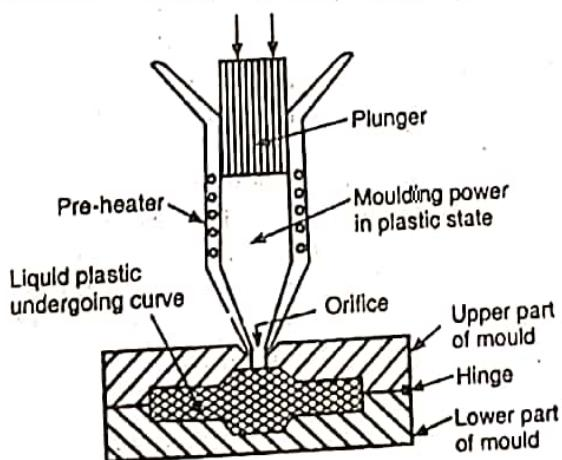

Fig. 19. Transfer moulding of plastics.
3. **Transfer moulding** is a method, which uses the principle of *injection moulding for thermo-setting materials*. In this (see Fig. 19), the moulding powder is placed in a heated chamber, maintained at the minimum temperature at which the moulding powder just begins to become plastic. This plastic material is then injected through an orifice into the mould by a plunger, working at a high pressure. Due to the very great friction developed at the orifice, the temperature of the material, at the time of ejection from the orifice, rises to such an extent that the moulding powder becomes almost liquid, and consequently, it flows quickly into the mould, which is being heated up to the curing temperature required for setting. The moulded article is then ejected mechanically.